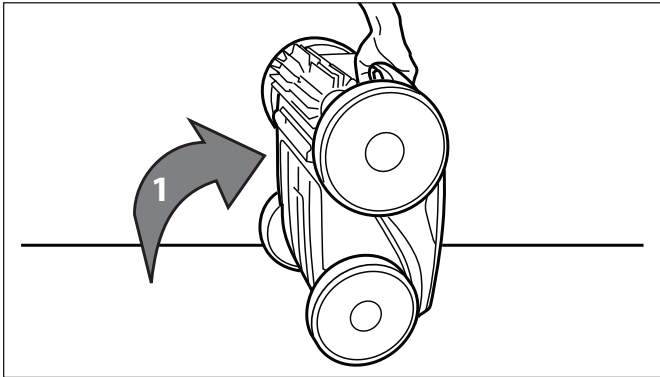

Figure 28. Clean in Upright Position
1. Lift the cleaner to a vertical position so that the handle is up. Refer to Figure 28.